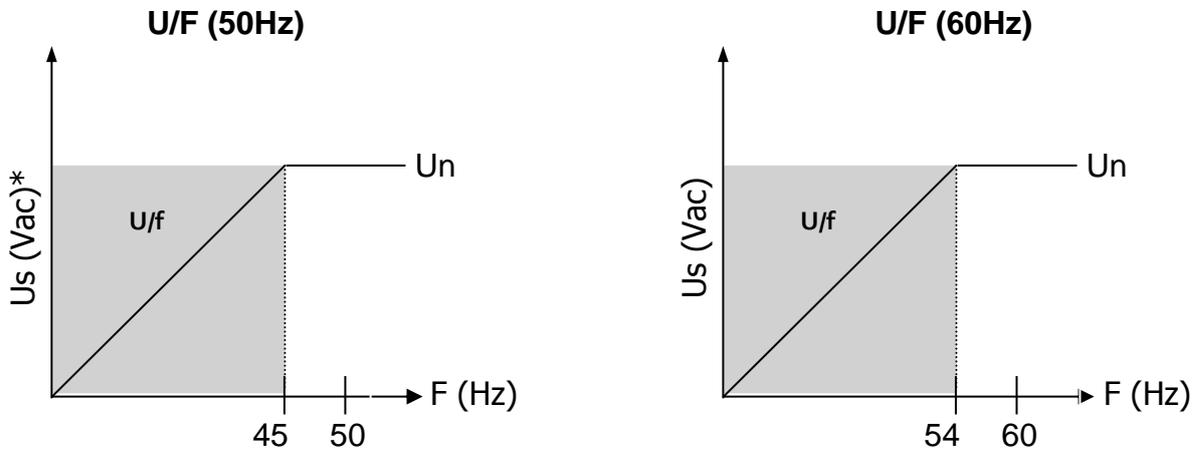

Figure 11.2: Operation of the protection U/F
The trimpot **U/F** determines the actuation point in U/F mode that can be from the rated frequency (Fn) to 1/3 of Fn, which value comes adjusted by the factory in 10% below Fn. For operation in 60Hz it's adjusted for 54Hz and for operation in 50Hz it's adjusted for 45Hz (see Figure 11.2), this value can be changed according to the needs of each application.
1. Don't let the U/F protection opened. The configuration must be done according Figure 11.2 to avoid problems when shutting down. The frequency limited by U/F is the frequency of the waveform that is at the power supply input of the regulator and not at the sensing input.